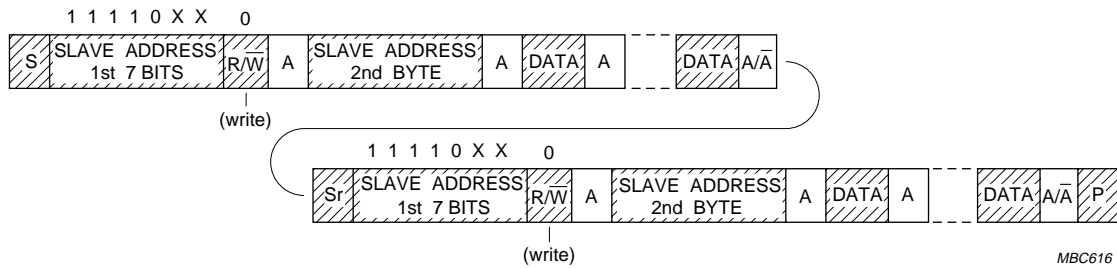

Fig.29 Combined format. A master transmits data to two slaves, both with 10-bit addresses.
- Combined format. A master transmits data to one slave and then transmits data to another slave (Fig.29). The same master occupies the bus all the time.